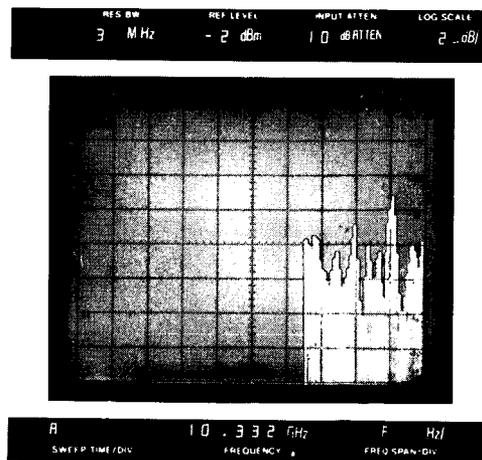

Figure 5-58. Typical Frequency Response (8690B/8696A)
5. Trigger sweep oscillator start/stop sweep and adjust sweep time vernier for display similar to that of Figure 5-58. STORE display on spectrum analyzer CRT.